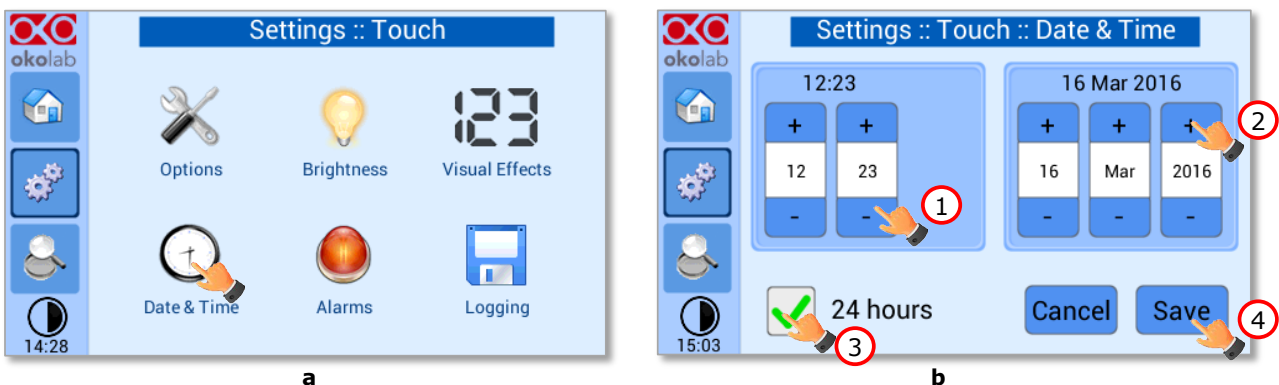

Figure 65. Touch screen settings. Date and Time (a – b).
1. Press the *Date & Time* icon  (see Figure 65 a).
2. Set the values by using the +/- icons (1 and 2 in Figure 65 b).
Tip ► Flag the 24 hours box, if you want to use the hour format based on 24 hours (3 in Figure 65 b).
3. Click on *Save* to confirm (4 in Figure 65 b) or *Cancel* to undo.